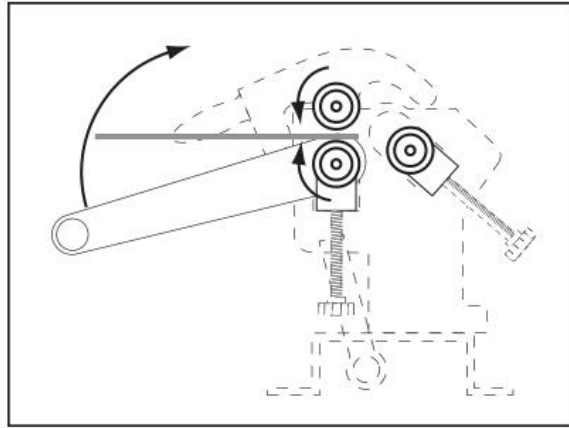

Figure 12
3. With the help of an assistant, feed the workpiece into the rollers while turning the crank (figure 12)